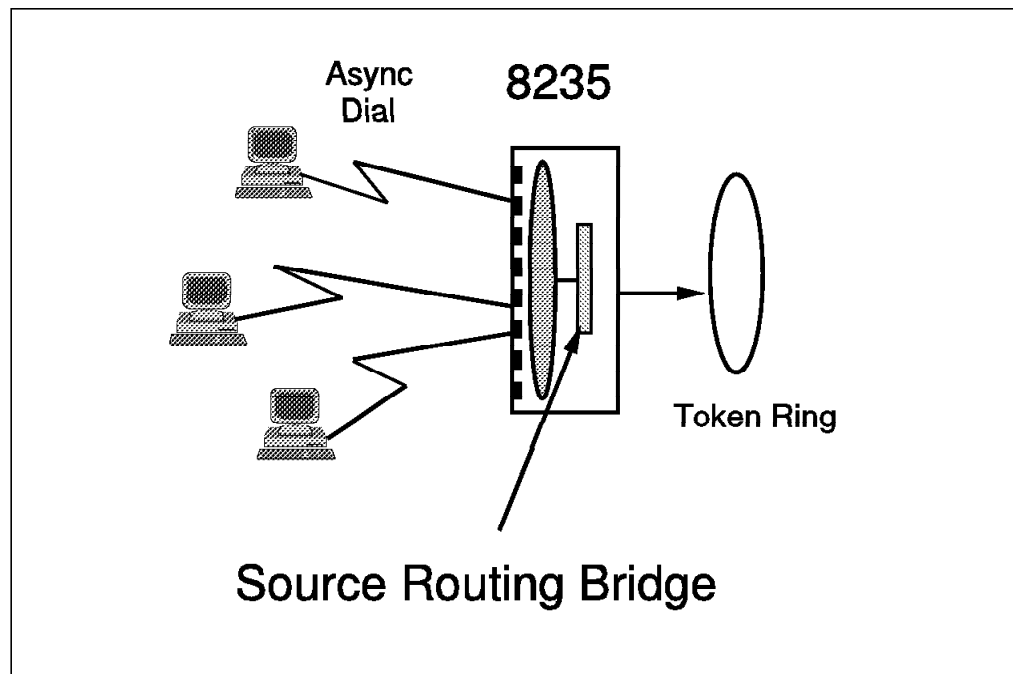

Figure 191. Source Routing Bridge
**Bridging** The token-ring acts like an IBM token-ring bridge with NetBIOS and 802.2 protocols as shown in Figure 191.